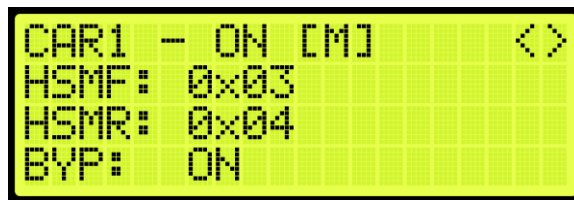

Figure 373: Front and Rear Hall Security Mask Status
11. From the Front and Rear Hall Security Mask Status (See Figure 373), press the right button.